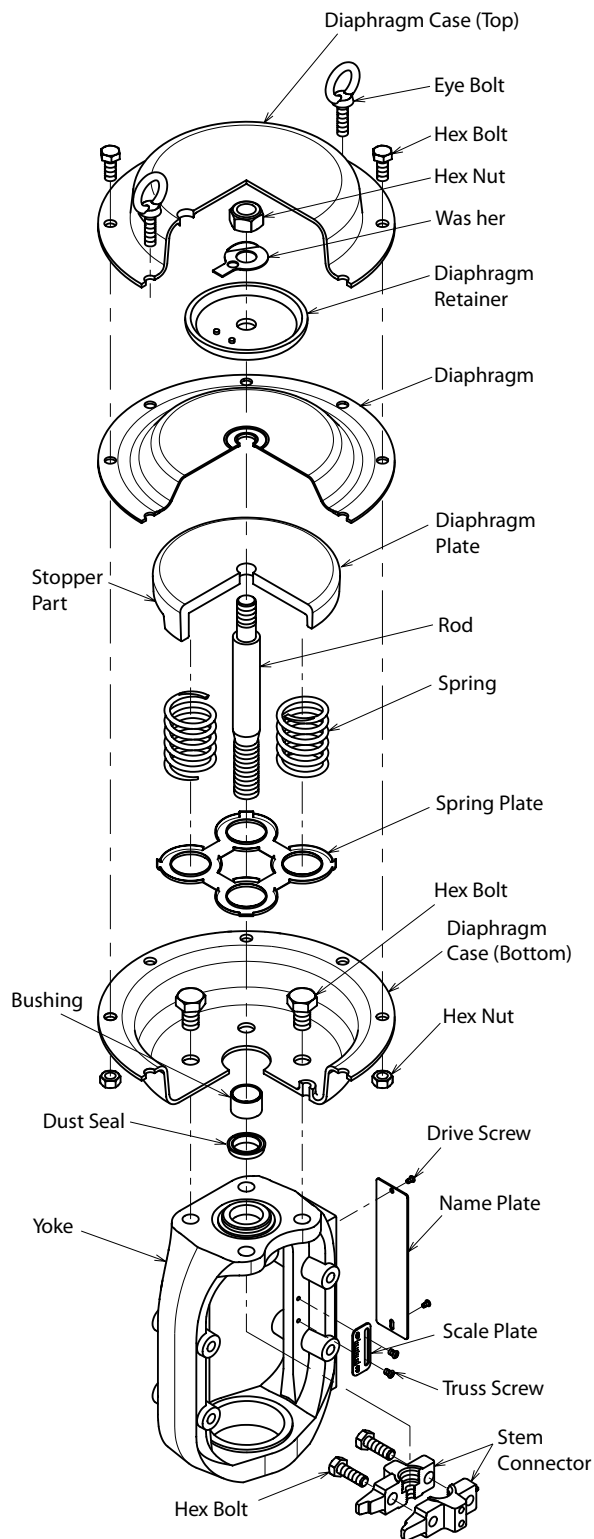
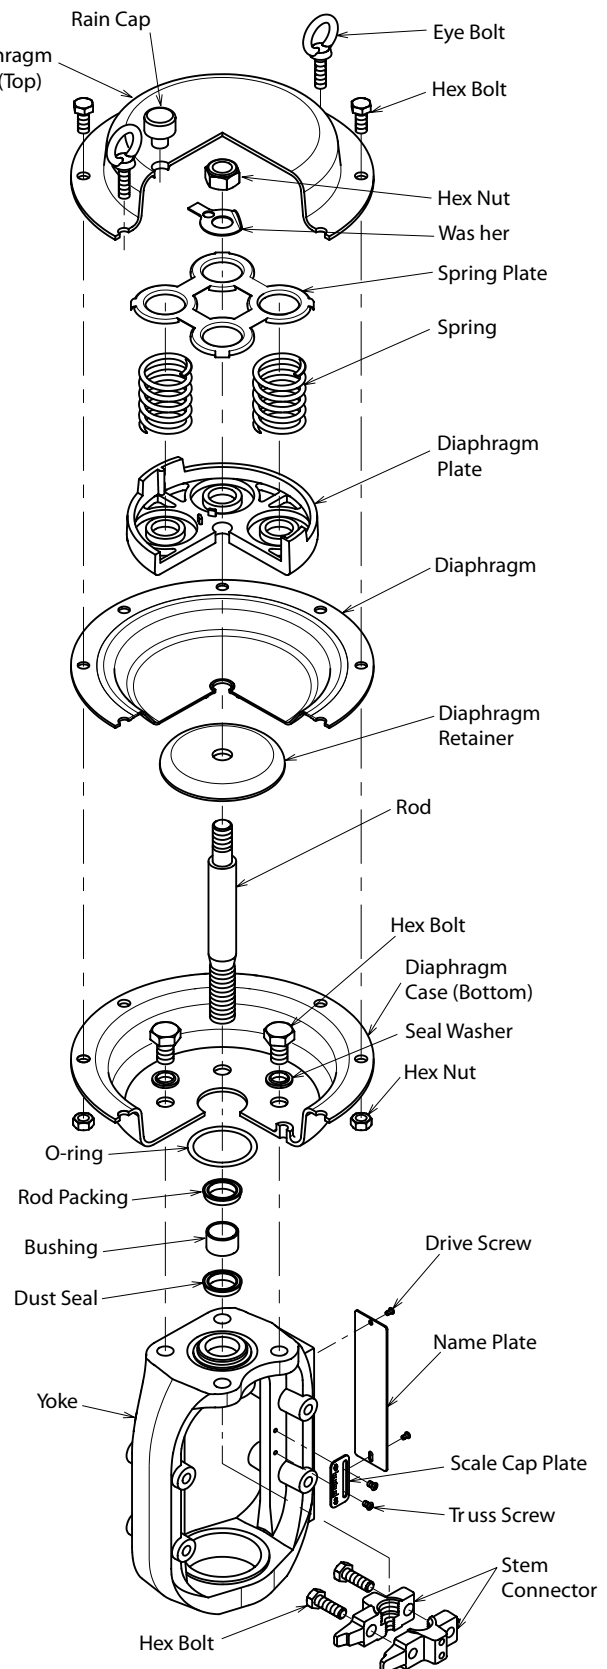

Figure 4-8 Direct Action model PSA1D
Figure 4-9 Reverse Action model PSA1R
A. Direct action model (see Figure 4-8)
- (1) Disconnect the air piping and detach the accessories from the actuator.
- (2) Remove the stem connector.
- (3) Remove the clamping bolts (except the pair of eyebolts) from the diaphragm case.
- (4) Alternately and evenly loosen the pair of eyebolts. The initial setting of the springs is achieved using these eyebolts.
- (5) Removing the diaphragm case. Pull the actuator rod upward and out together with the diaphragm.
- (6) Take out the springs.
B. Reverse action model (see Figure 4-9)
- (1) Disconnect the air piping and detach the accessories from the actuator
- (4) Alternately and evenly loosen the pair of eyebolts. The initial setting of the springs is achieved using the eyebolts.
- (5) Remove the diaphragm case. Take on the springs.
- (6) Pull the actuator rod upward and out together with the diaphragm.
- See Figure 4-8.
Install packing for the rod and dustseal in the correct direction. Refer to Figure 4-8.
Install packing for the rod and dustseal in the correct direction. Refer to Figure 4-9.